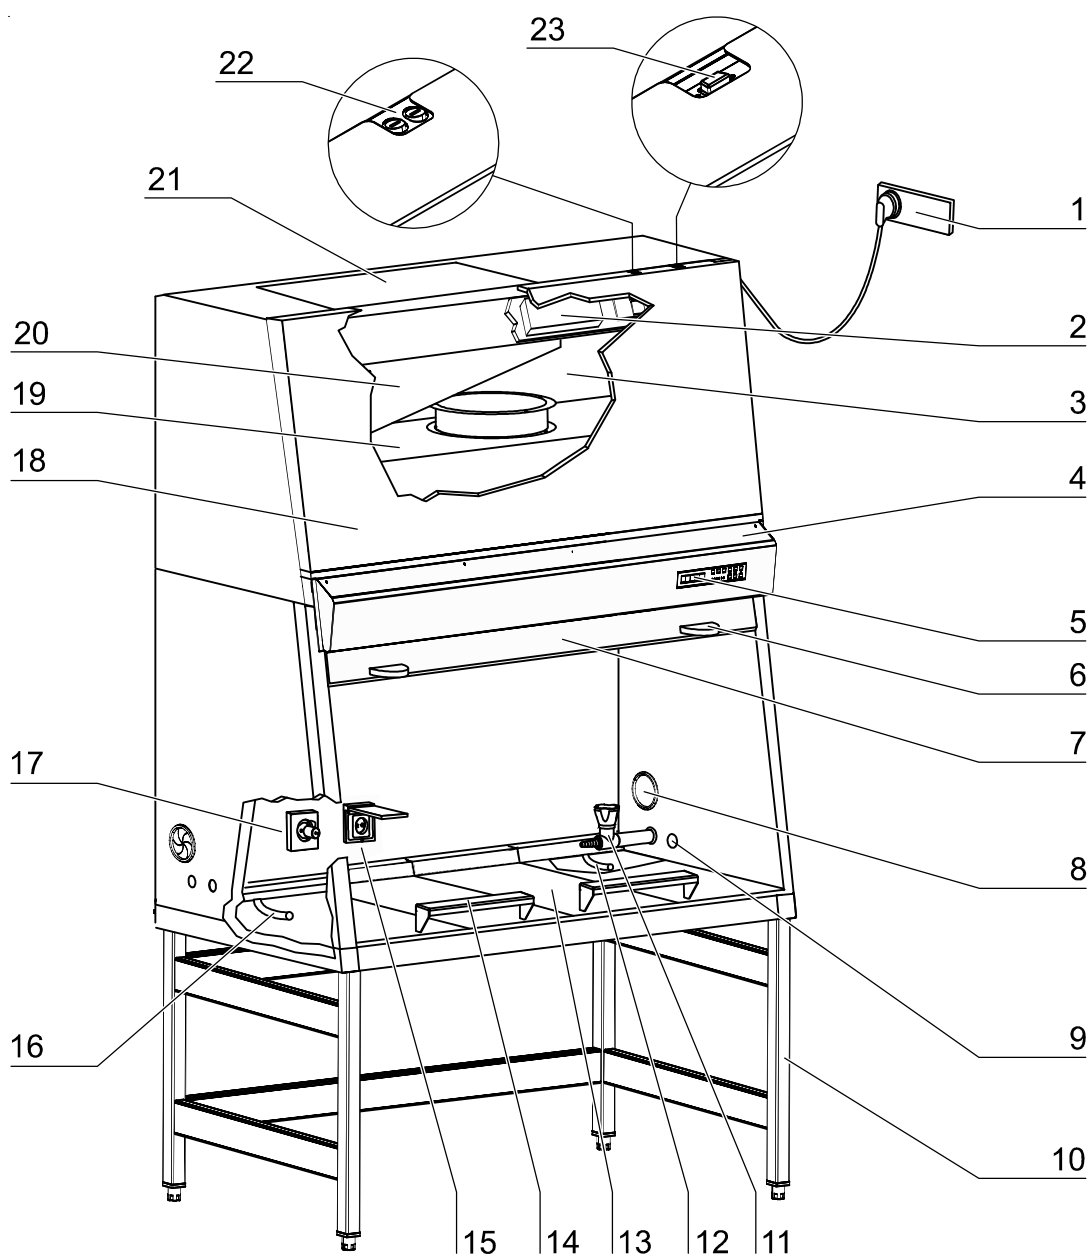

Fig. 3
- **Fig. 3:** Plenum assembly [3] with plenum for downflow blower [19] and plenum for exhaust air blower [20]. The downflow filter and the exhaust air filter are installed immediately to the pertaining plenum. The exhaust air is discharged to the exterior of the device through an opening.